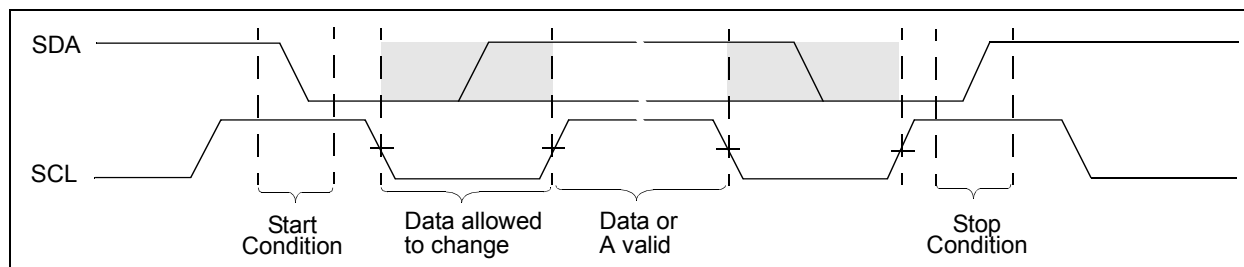

**FIGURE 6-8:** I2C Data States and Bit Sequence.
**Figure 6-8** shows the I2C transfer sequence. The serial clock is generated by the master. The following definitions are used for the bit states:
- Start bit (S)
- Acknowledge (A) bit (driven Low)/